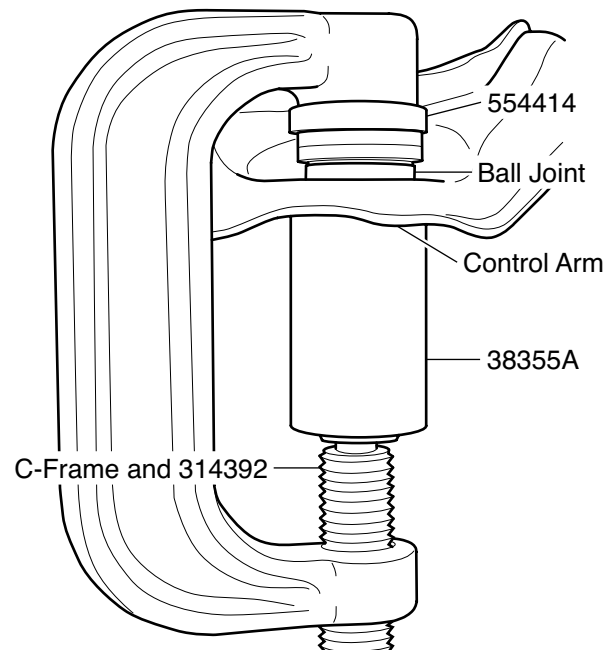

Figure 2. Ball Joint Installation
3. Position 554414 and 38355A on the ball joint as shown in Figure 2.